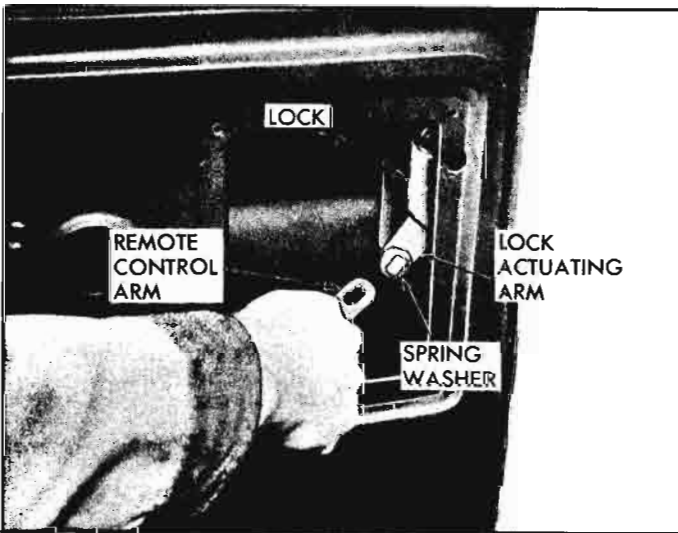

Fig. 10-71a—Removing Remote Control Arm
NOTE: On panel models, reach through access hole and unhook remote control arm from lock actuating arm (fig. 10-71a). On models with windows, reach through trim panel opening and remove remote control arm from lock actuating arm.
1. Hook remote control arm on lock actuating arm (fig. 10-71a).
NOTE: Be sure anti-rattle spring washer (fig. 10-71a) is in place.
2. Disconnect remote control arm from lock actuating arm (fig. 10-71a).